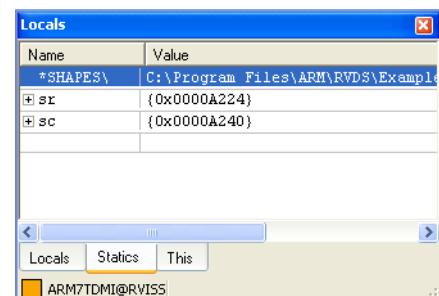

Figure 13-9 Statics tab in the Locals view
2. Click the **Statics** tab in the Locals view. Figure 13-9 shows an example: